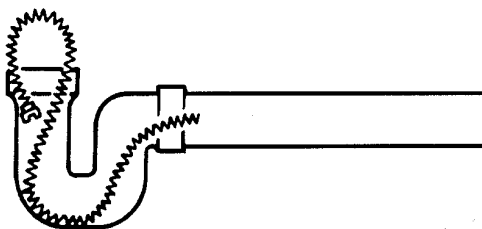

Figure 7 – Looping Cable In Line
- Secure the cable by looping it in the line (Figure 7). This procedure is especially useful when cleaning a line with a steep grade.